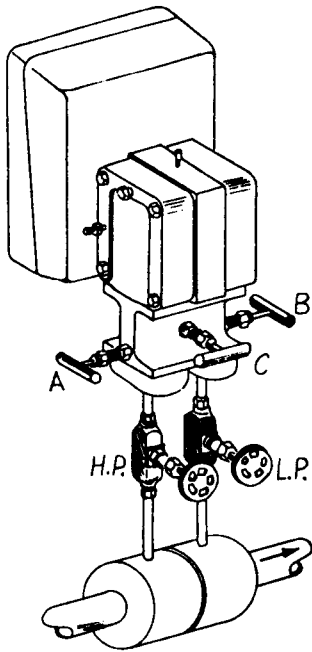

Figure 7. Piping connections for wet gas flow service, using commercial manifold.
- (1) Using Commercial Manifold (Figure 7)